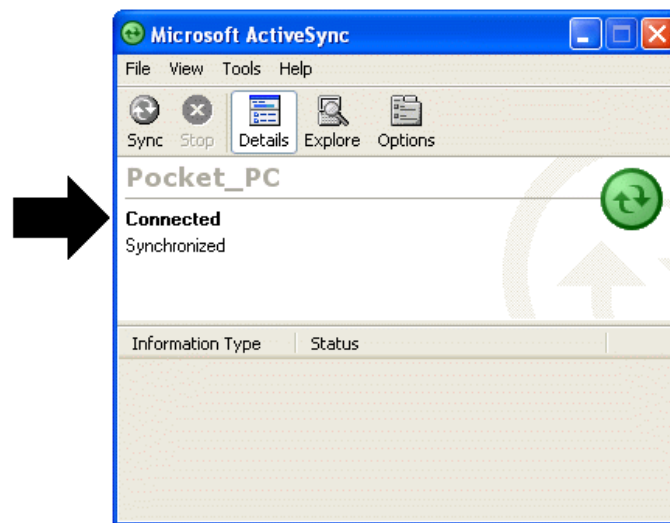

Figure 76. Connection Established.
5) Continue with installation as directed. At the end of the wizard, the ActiveSync dialog will indicate the Detective computer is **Connected** (Fig. 76). If ActiveSync cannot connect to the Detective, see the troubleshooting steps in Section 7.9.